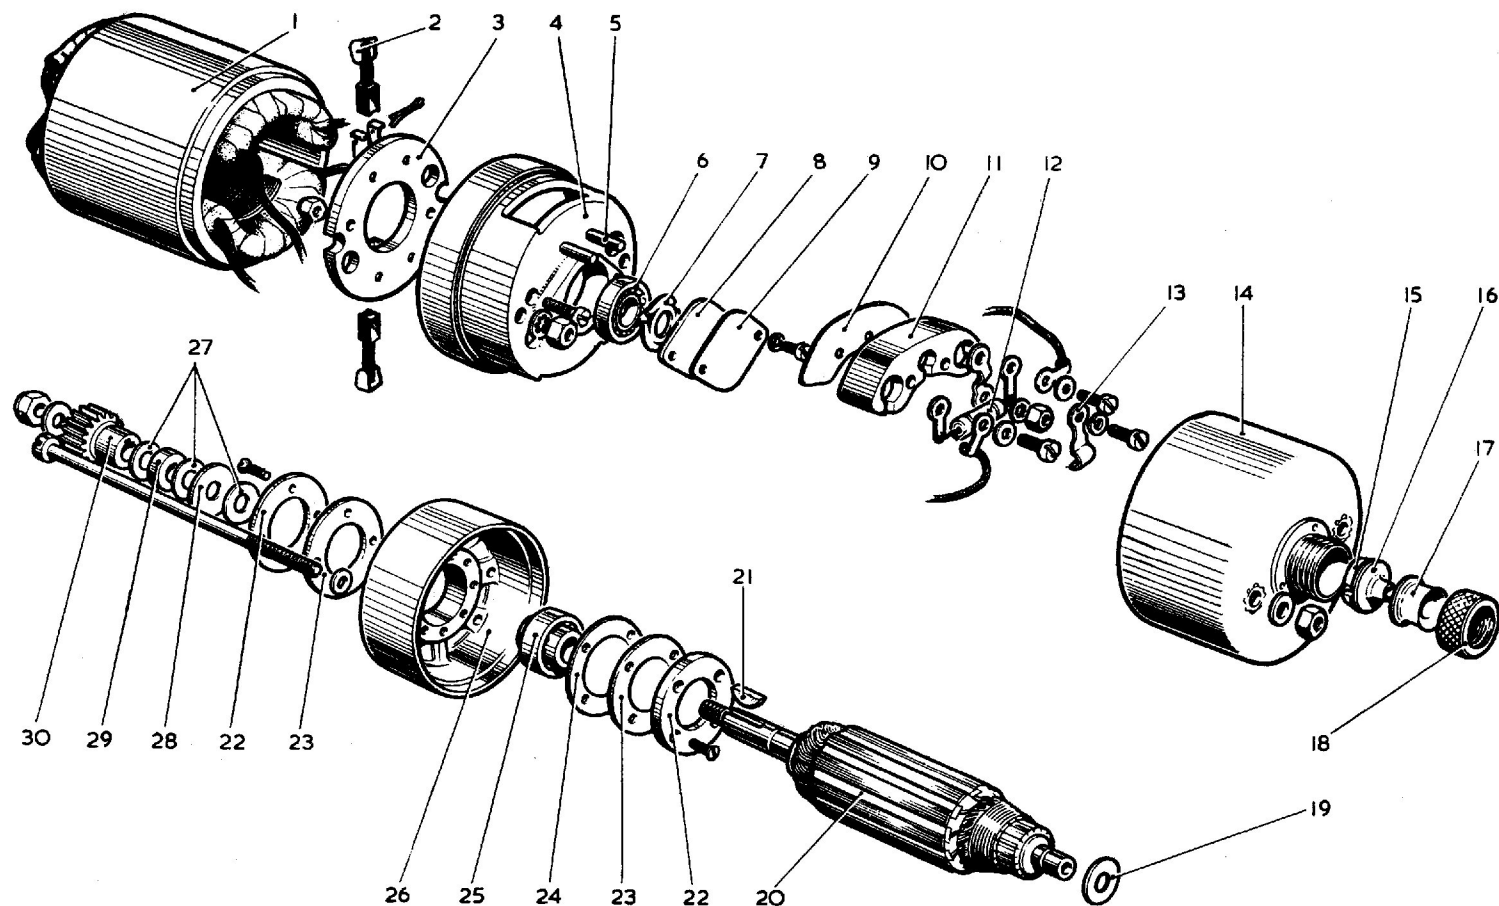

Fig. 4. Exploded view of motor
8. Examine the pump for external damage and signs of corrosion and leakage. If it is required to renew any of the components the pump should be dismantled as detailed in the following paragraphs. During dismantling reference should be made to fig. 3 and fig. 4 as appropriate.
**KEY TO FIG 4**